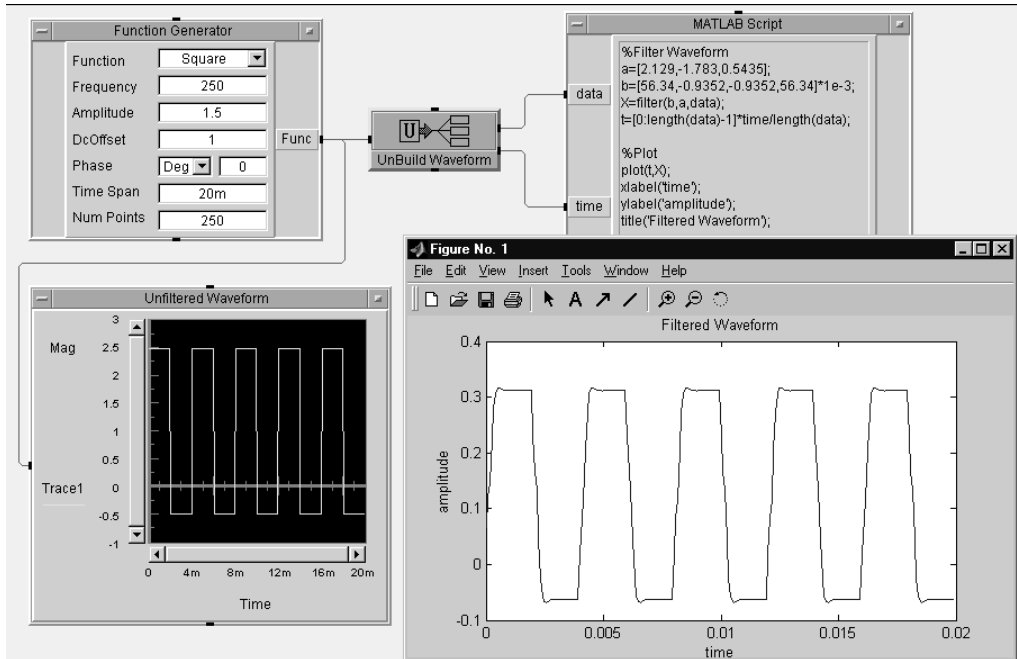

Figure 17.12. LAB 17.5 after running
14. Run this program. See Figure 17.12 where the MATLAB Figure No. 1 has been sized and placed next to the unfiltered waveform so these two waveforms may be easily compared.